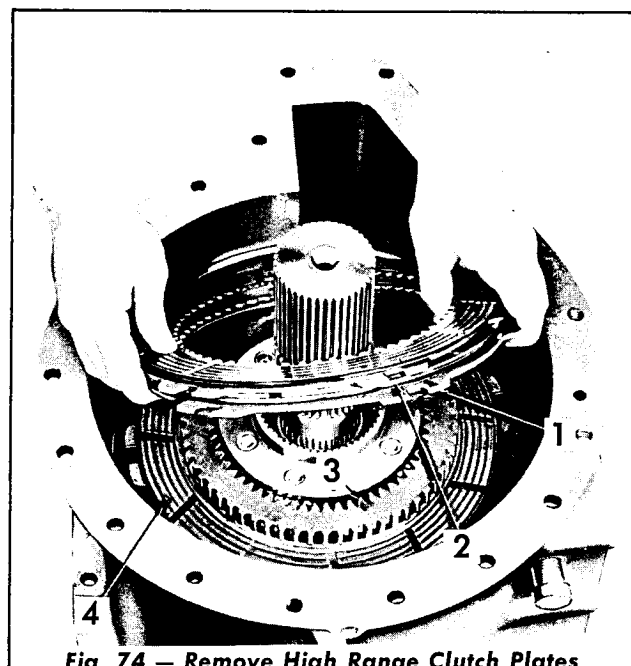

Fig. 74 — Remove High Range Clutch Plates
12. Remove the two external and the two internal splined high range clutch plates (Fig. 74). Remove the high range ring gear. Remove the remaining clutch plates (one internal and one internal splined).